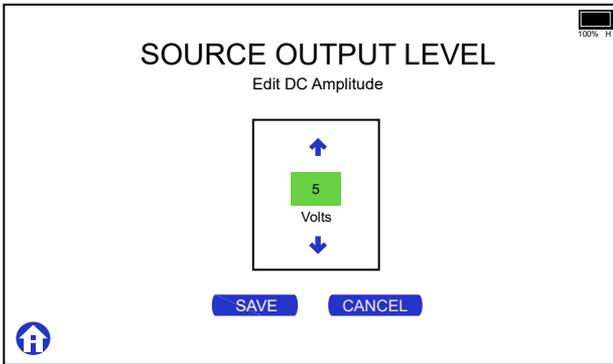

Figure 11: IRIG-B Source Voltage Level Configuration Screen
3. If selecting Variable, touch the voltage to open the voltage adjustment screen – see Figure 11.